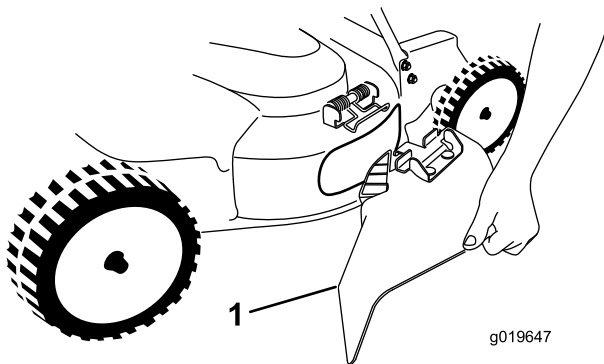

Figure 26
5. Install the side-discharge chute (Figure 26) by pulling up on the spring, placing the chute over the opening, and lowering the spring over the tabs on the top of the discharge chute.